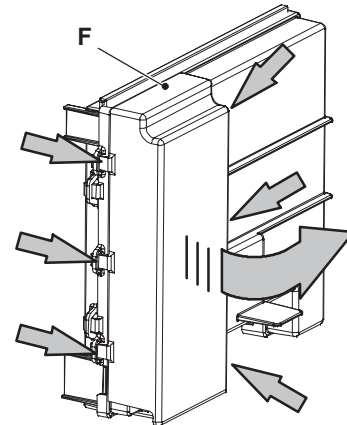

Figure 2.7
- 2 To remove the terminal block lid F (Figure 2.7), free the front hooks.
- 6 Remove the terminal block lid F (Figure 2.7).